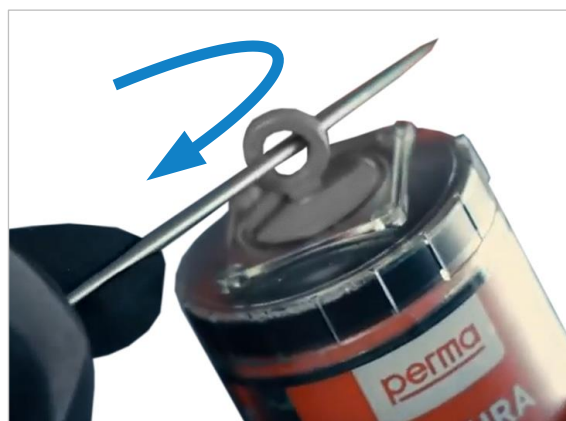

Figure 68: Activation with activation screw
- Open the front service door and unscrew the used lubricator (S) from the lubrication point.
- Remove the cap of the new cartridge. Release lubricant dispensing by screwing in the activating screw with a suitable tool, until the O-ring breaks off (see ⇒ Figure 68 on the right).